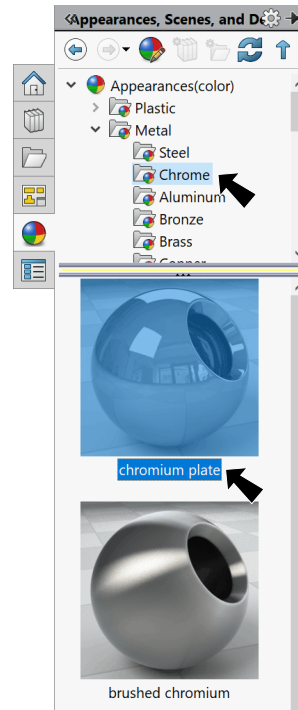

Fig. 20
Step 2. In the Appearances Task pane, expand **Metal** and click **Chrome** and in the lower pane select **chromium plate**, Fig. 20.